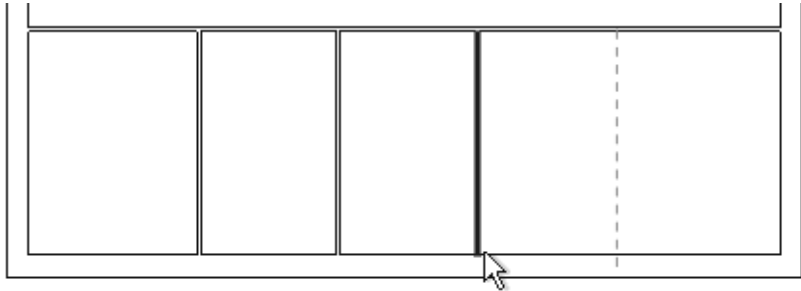

Figure 2–82
8. Which of the following are ways in which you can create additional parallel walls, as shown in Figure 2–82? (Select all that apply.)